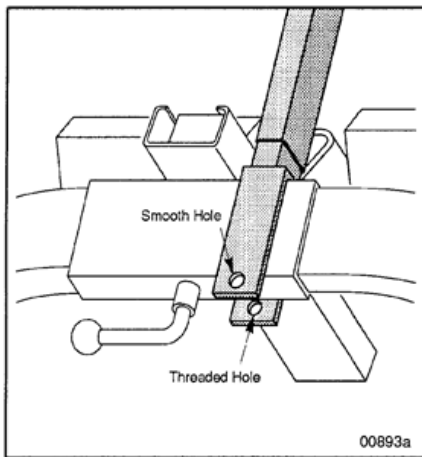

Figure 1-7 Calibration T-Bar Attachment
- Notice the holes in the base of the T-bar. The inside of one hole is smooth while the other is threaded. Place the T-bar over the input arm assembly as close to the scapular pad adjustment channel as possible, with the threaded hole toward the front of the TEF Modular Component (the push buttons on the top of the T will be facing forward). See Figure 1-7.